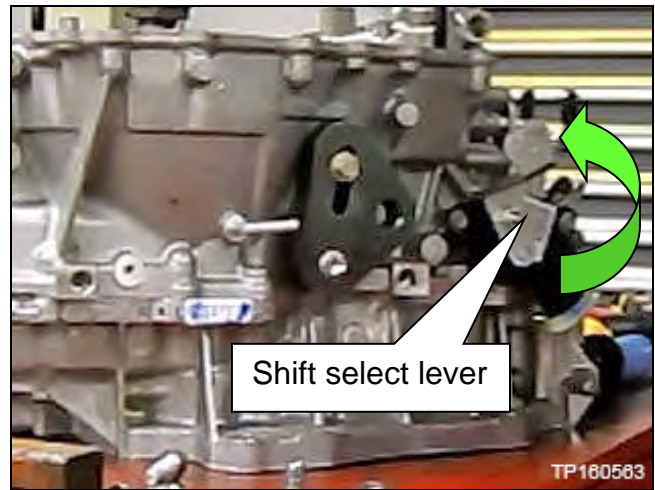
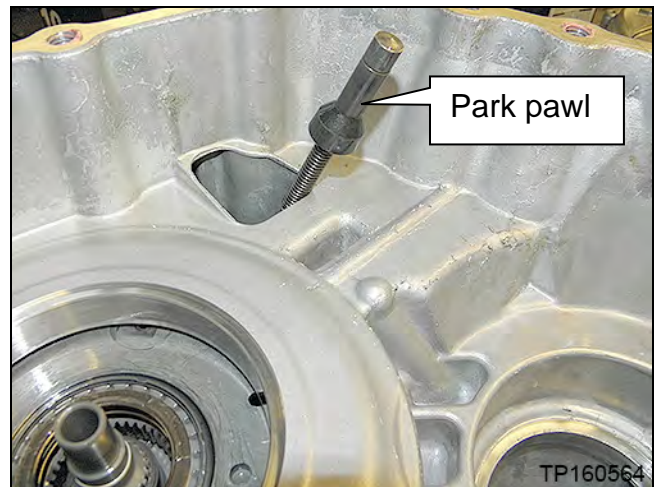

Figure 17F
Figure 18F
15. Rotate the shift select lever counter clockwise to the “L” range position (Figure 17F), so that the park pawl is at its lowest position (Figure 18F).